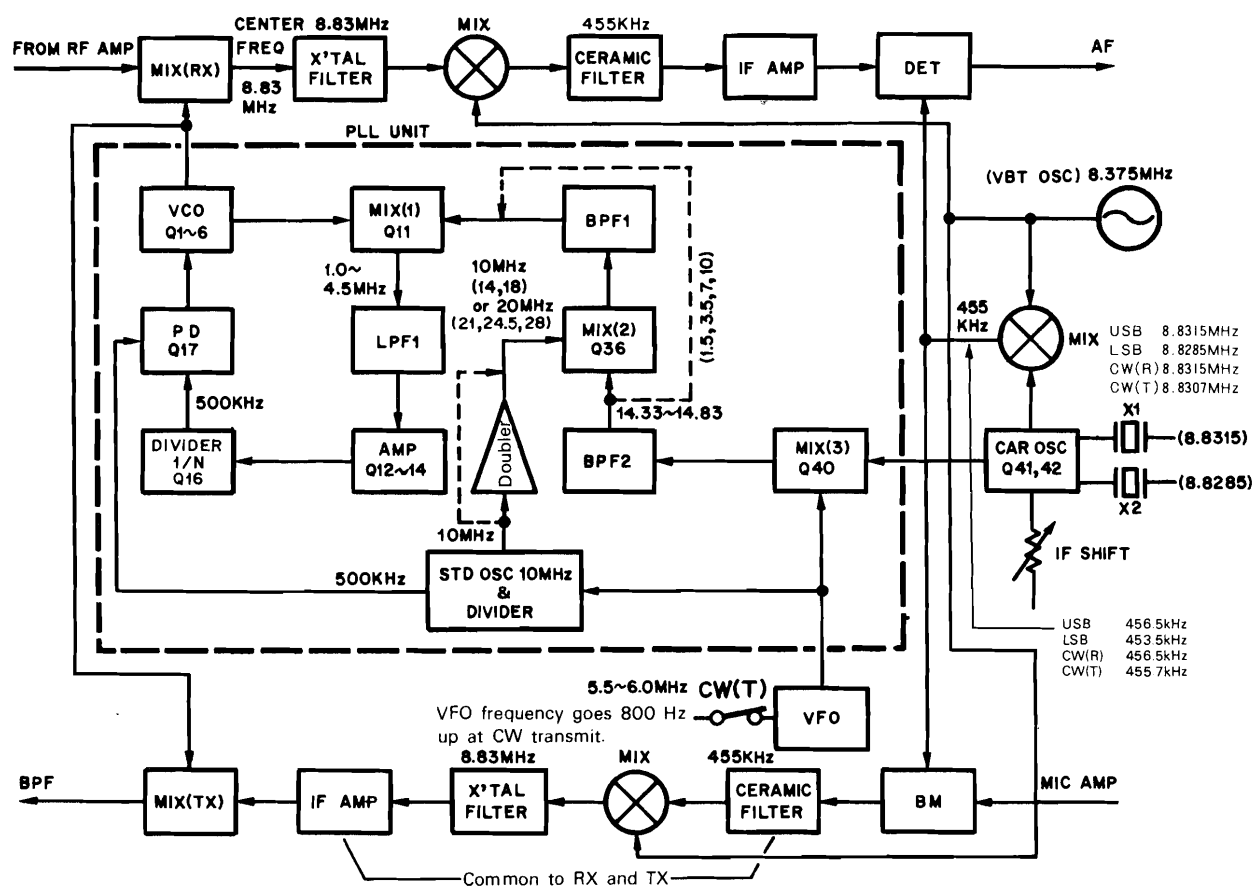
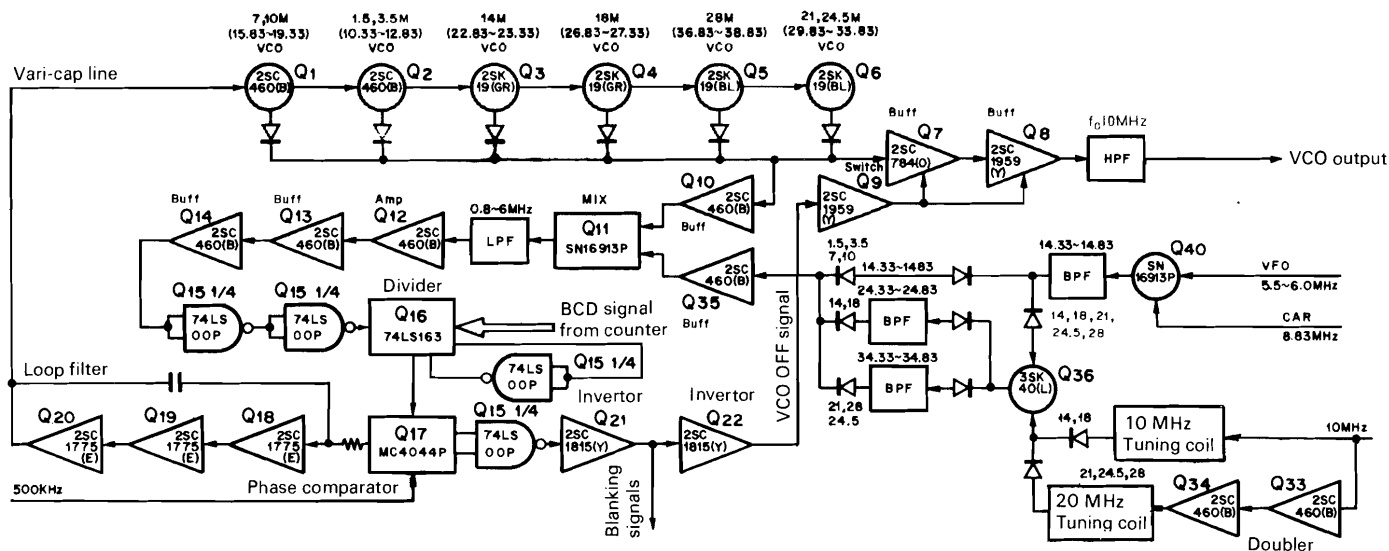

Fig. 1 TS-830 Frequency configuration
Fig. 2 TS-830 PLL circuit configuration
Frequency organization of the PLL circuit is shown in Figure 1, the circuit diagram in Figure 2, and frequency organization in other circuits is summarized in Table 4. Please refer to Figure 1 when reading the following description on PLL circuit operation. MIX (3), a double balanced mixer, mixes the CAR output with the VFO output. MIX (2) which operates in 18 MHz bands and above, mixes either 10 MHz, in the 14 and 18 MHz bands, or 20 MHz, in the 21, 24.5, and 28 MHz bands, with the output of MIX (3) to generate the appropriate frequency needed for each band, as shown in Table 4. This is mixed with the VCO output for each band by MIX (1) to a frequency given in Table 4, which is then routed through LPF (1), amplified, and wave-shaped to a digital signal. A programmable divider divides this signal into a 500 kHz output. This programmable divider is preset, as shown in Table 4, by the BCD signal which is counter-generated from information coming from the band switch. The phase comparator used is a Motorola MC4044P. The loop filter is made of completely external components to minimize spurious radiation. Six VCOs cover all bands. If the PLL unlocks for any reason, it will be detected from the phase comparator output. This will turn off the VCO output to prevent spurious radiation and, at the same time, the digital display will be blanked to inform the operator of unlock status.
The CAR oscillator is composed of an oscillator and two quartz crystals. The output frequency in each mode is given in Figure 1. During reception, this frequency can be varied by the IF shift.